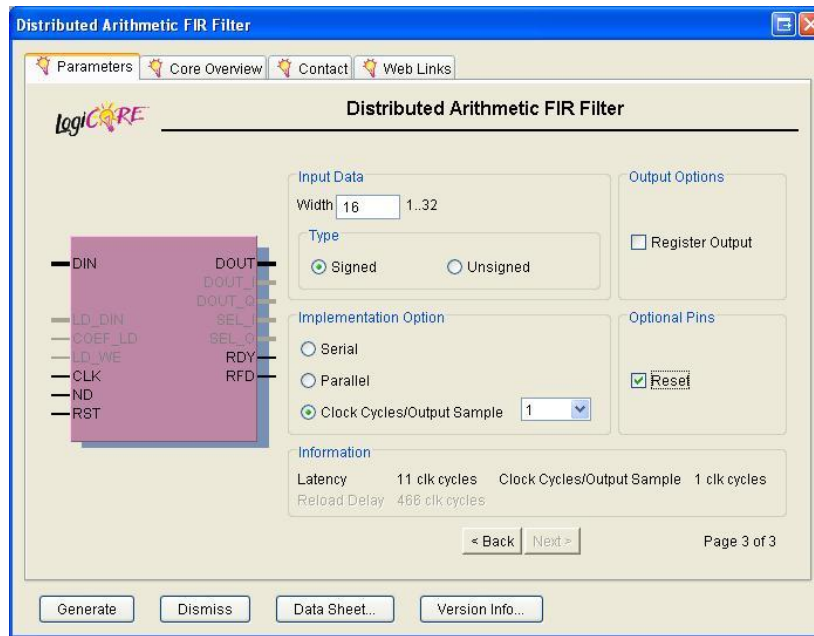

Figure 25: Step 3 of 3 Dist. Arithmetic FIR Filter
10. For the **Input Data Width**, type in “16”. On the **Optional Pins**, place a checkmark next to **Reset**. Your new Distributed Arithmetic FIR Filter page 3 of 3 should look similar to Figure 25 below. Click the **Generate** button to generate the FIR Filter.